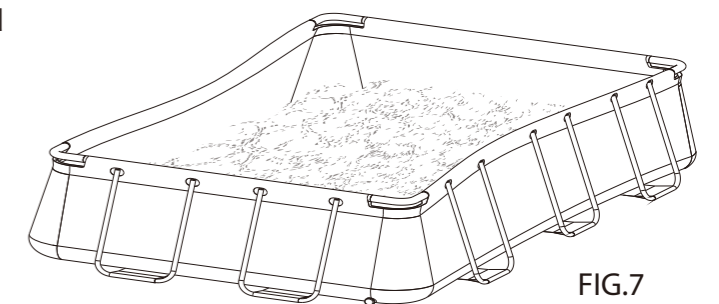

FIG.7
I. When the water half filled, the top frame will tend to bend down at the middle (See FIG.7). It is absolutely normal. Continue to fill water to the optimal level, the frame will restore to its normal shape.